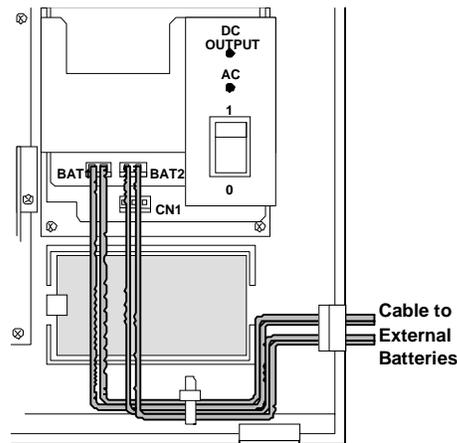

FIGURE 34. EXTERNAL BATTERY CONNECTION.
3. Connect the batteries PE-12V7 to the connectors marked BAT1 and BAT2 on the VS-PWSU power supplies as illustrated in Figure 34. The red conductor is positive(+) and the black conductor is negative(-).